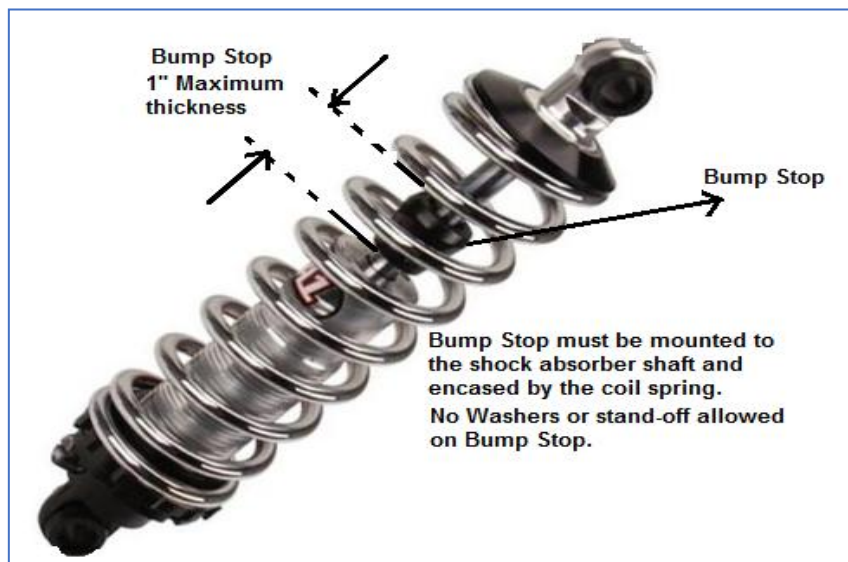

Figure 19
25.18 Bump stops with a maximum height of 1 inch (no tolerance) are allowed. Bump-stops must in no way be used to affect the spring rate. Bump-stops must be mounted on the shaft of the shock absorber, within the spring coils and with no stand offs or washers allowed. Bump-stops are not allowed behind the spring carrier. The bump-stop must be free to move the length of the shock absorber shaft. Only one x 1" bump stop allowed per shock absorber (*Figure 19*).